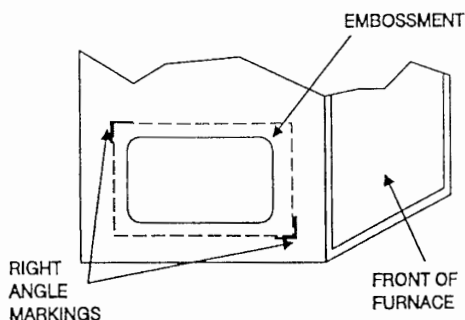

FIGURE 1 - SIDE RETURN CUTOFF MARKINGS
- Side return - Cut a hole in the side panel of the furnace using the right-angle markings (See Figure 1) as a guide for position and size of the opening. Install a single side return filter frame accessory if one is required. If this accessory is not needed, the ductwork can be fastened directly to the furnace opening.